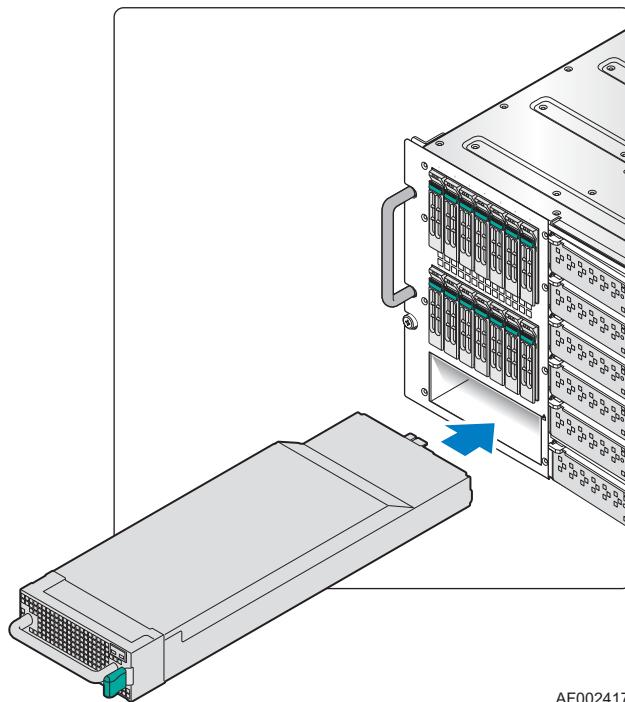

Figure 23. Installing an I/O Cooling Module
3. Press the I/O cooling module retention latch to release the I/O cooling module from the module bay (see letter “A” in Figure 23).
4. Slide the I/O cooling module out of the module bay (see letter “B” in Figure 23).
3. Slide the replacement I/O cooling module into the vacant module bay (see Figure 23) until the retention latch engages.